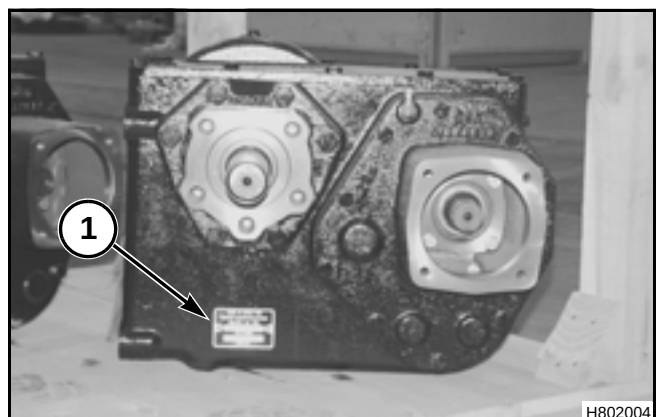

FIG. 37
FIG. 37: The transmission serial number is stamped on the serial number plate that is fastened to the left hand side of the transmission housing at location (1).